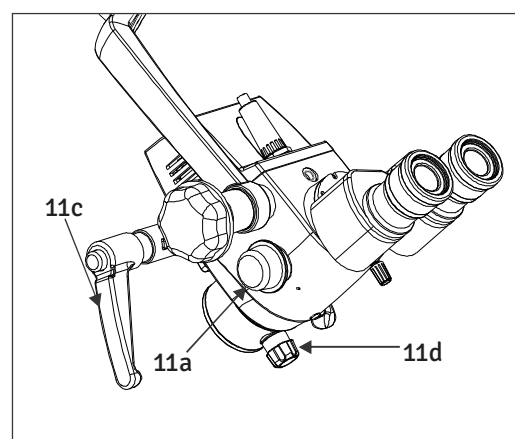

Fig. 13
SETTING UP OF MAGNIFICATION (Ref. Fig. 13)
2. Fine focusing is done by knob provided on CMO shown as (11d) in fig. 13.